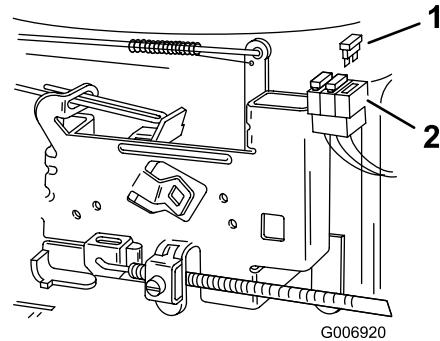

Figure 38
- Pull up on the fuse (Figure 38) to remove it from the socket.